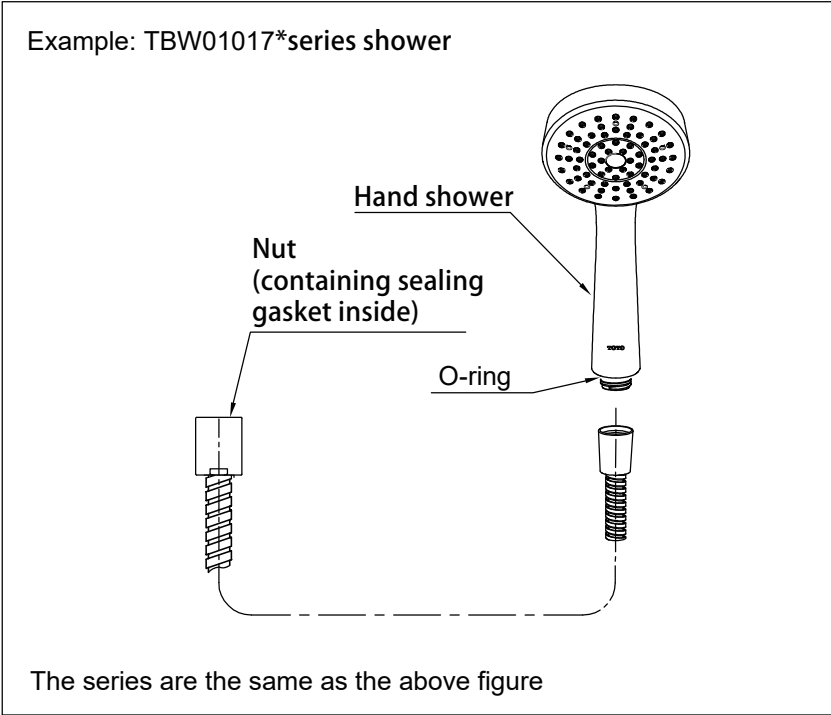

Figure 2: Shower hole installation
- (1) Confirm if any sealing gasket exists in the nut;
- (2) Confirm if any O-ring exists in the shower part;
- (3) Connect the hose with the screw threads of the water nozzle part, as shown in figure 2.